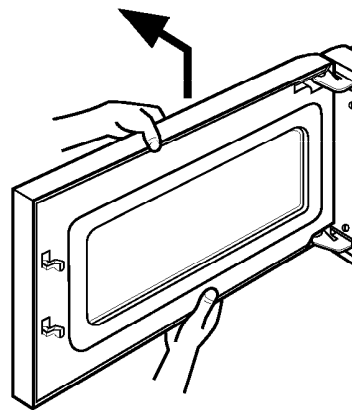

Figure 16
F. REMOVING DOOR (Figure 16)
- (1) Remove the vent grille by removing two screws securing it to the front bracket.
- (2) Lift up and push the door.